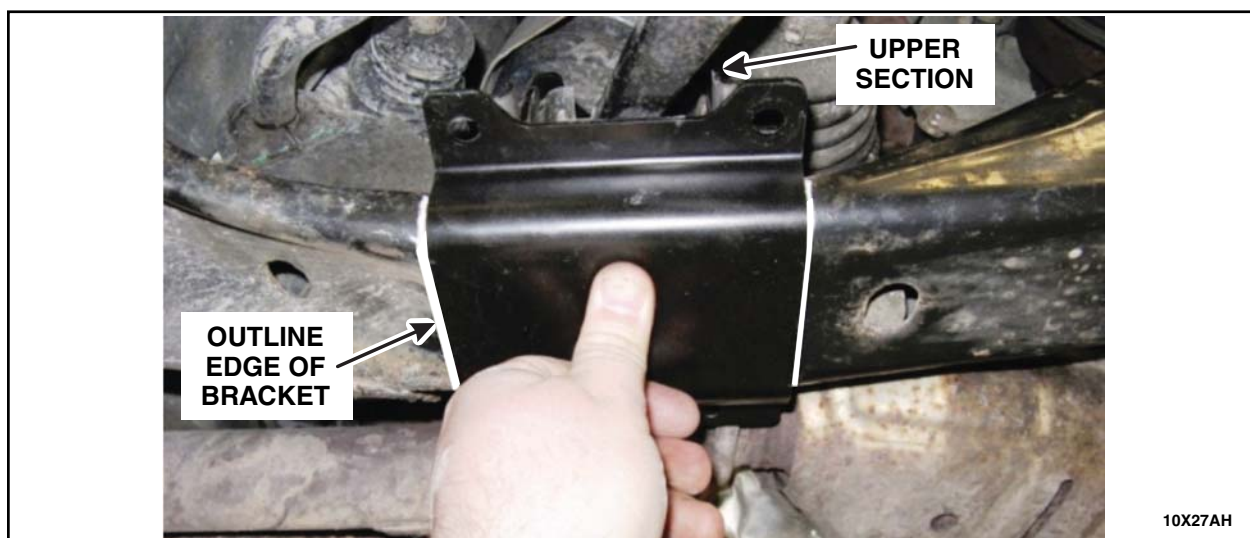

FIGURE 6
7. Dry fit the lower section of the passenger side reinforcement brackets on the subframe by aligning bolt holes with upper section. Using a paint pen or marker, outline the outer edges of the LCA reinforcement bracket. See Figure 6.